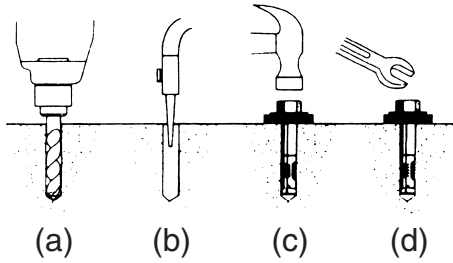

Figure 3
- a. Drill four holes perpendicular to the work surface using a bit with a diameter equal to the anchor diameter. Drill the hole to a depth exceeding minimum embedment, but not closer than two anchor diameters to the bottom or opposite concrete surface. Through drilling may be allowed when using sleeve anchors in hollow concrete block. **TO ENSURE FULL HOLDING POWER, DO NOT REAM THE HOLE OR ALLOW THE DRILL TO WOBBLE.** See figure 3(a).
See figure 3(b).